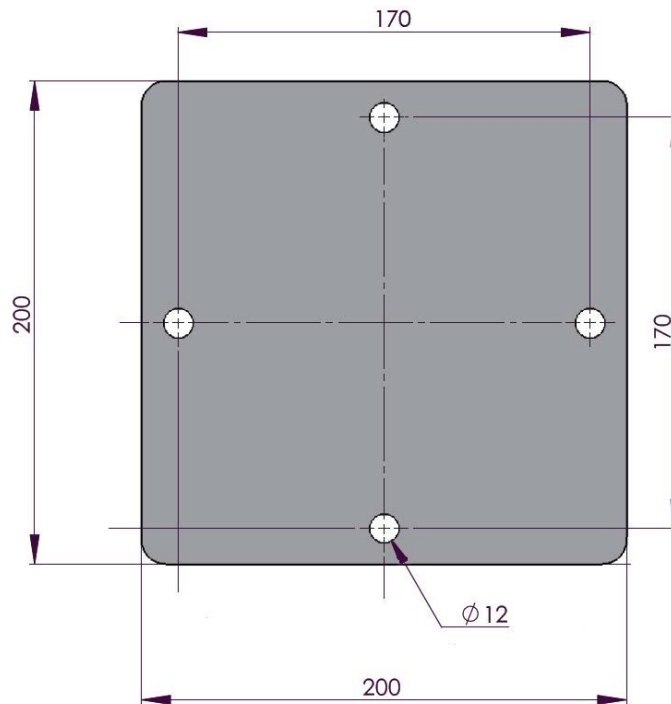

Figure 6-8. Mounting footprint (in mm)
2. Drill four 12 mm diameter holes to a depth of 77 mm at the locations indicated in Figure 6-8 (p. 22). The mount base can be used as a template.